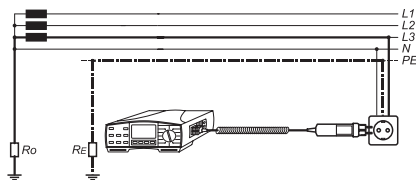

Figure 63: Test leads connection to COMMANDER 1
- ▶ Connect test leads to UUT in accordance with Figure 63 or 64. If desired, this connection information can directly be retrieved on the measurement instrument using the key 'HELP'. Repeated pressing of the key 'HELP' indicates the various options for connection.